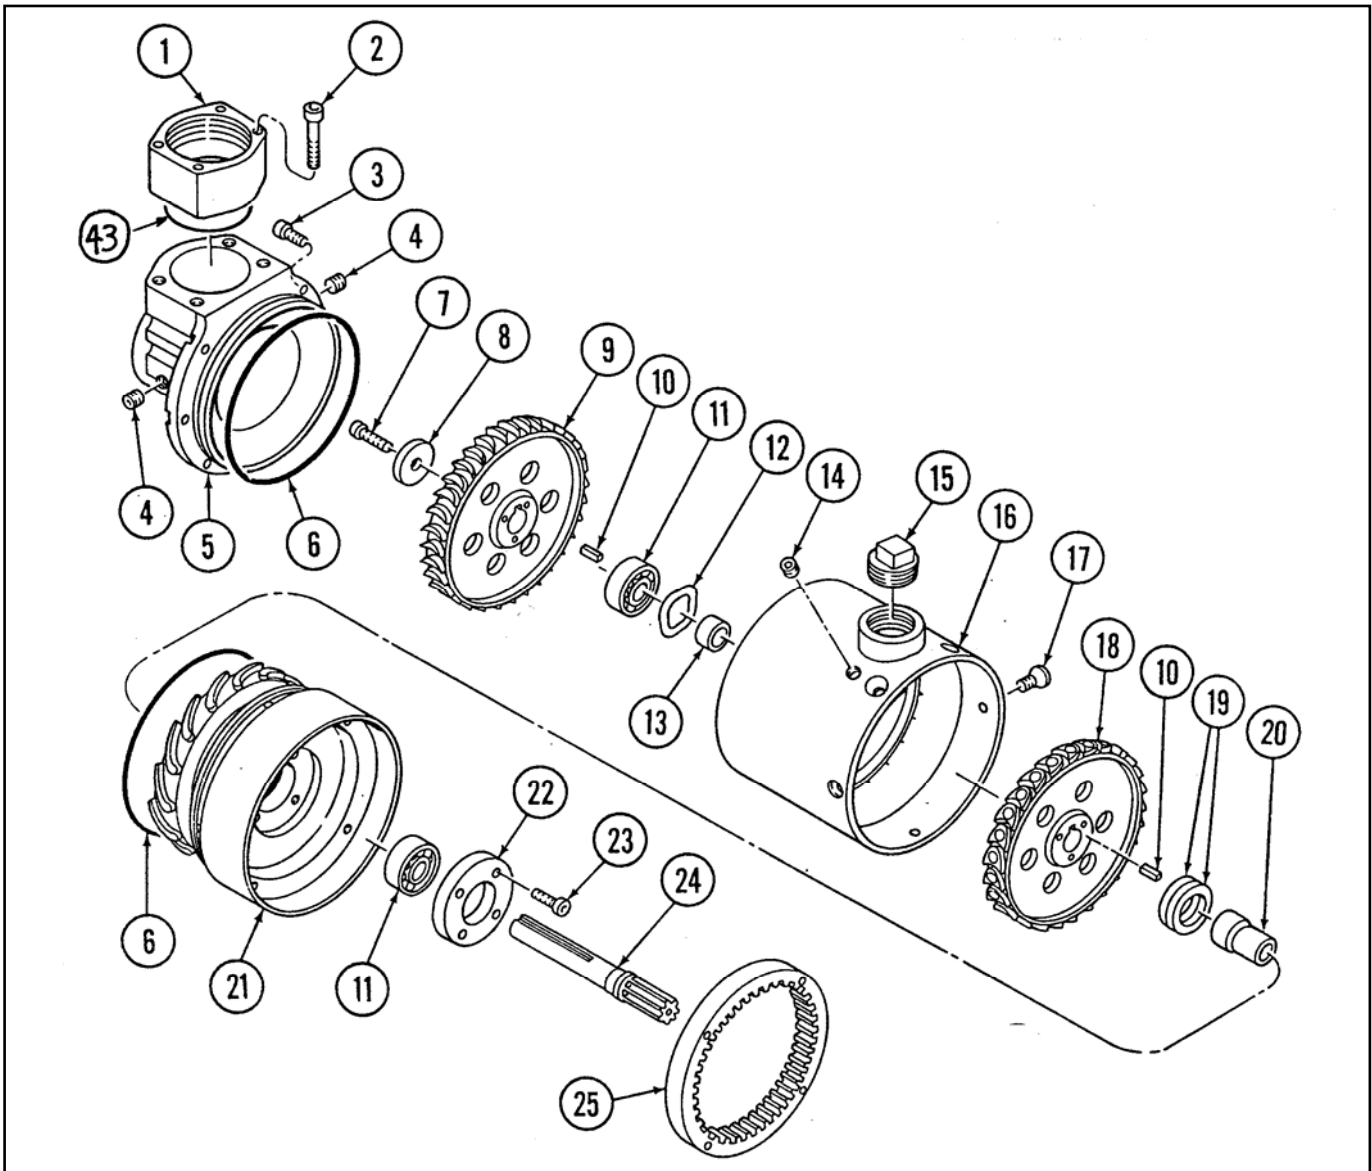

Figure 3. Turbine Housing Assembly
The Turbine housing assembly, refer to figure 3, consists of a stage one (18) and a stage two turbine rotor (9) mounted on sun gear shaft (24). The front bearing (8) is secured by a retainer plate (22) and the aft bearing is pre-load by a spring washer (12).